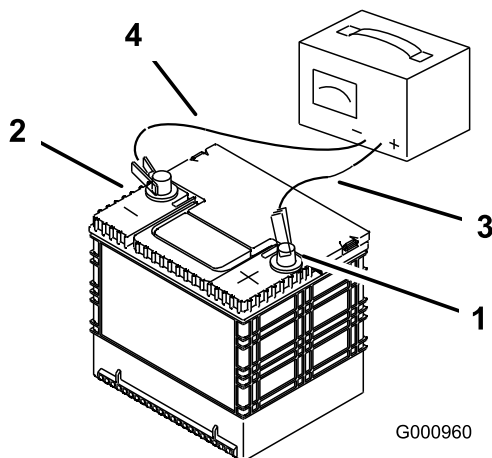

Figure 36
2. When the battery is fully charged, unplug the charger from the electrical outlet, and disconnect the charger leads from the battery posts (Figure 36).